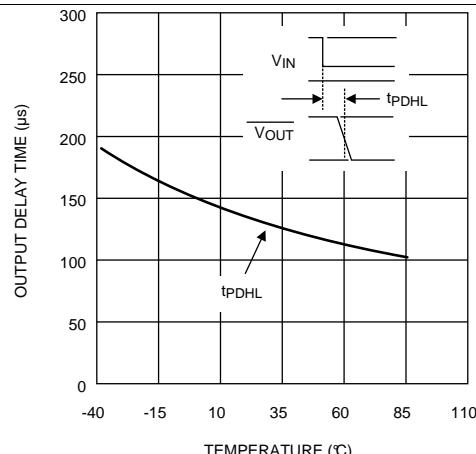

Figure 3. Propagation Delay Time (t_{PDHL}) vs Temperature
** See Figure 3 for tPDHL values